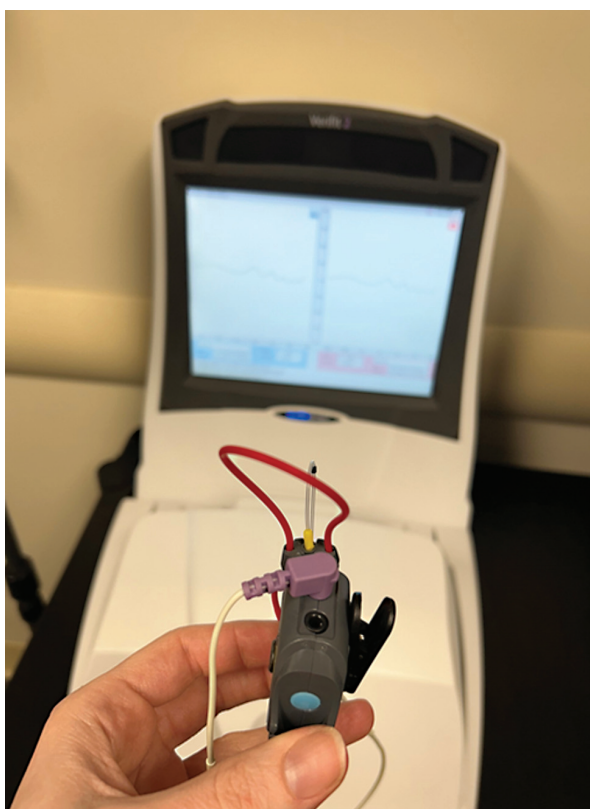

Figure 3 Positioning the probe assembly for leveling.
5. Hold the probe assembly about 18'' (45 cm) away from and facing the loudspeaker on the top of the Verifit or facing the external/auxiliary speaker if enabled (see Figure 3). Ideally, you are holding the probe microphone assembly near where the patient's ear will be for testing.